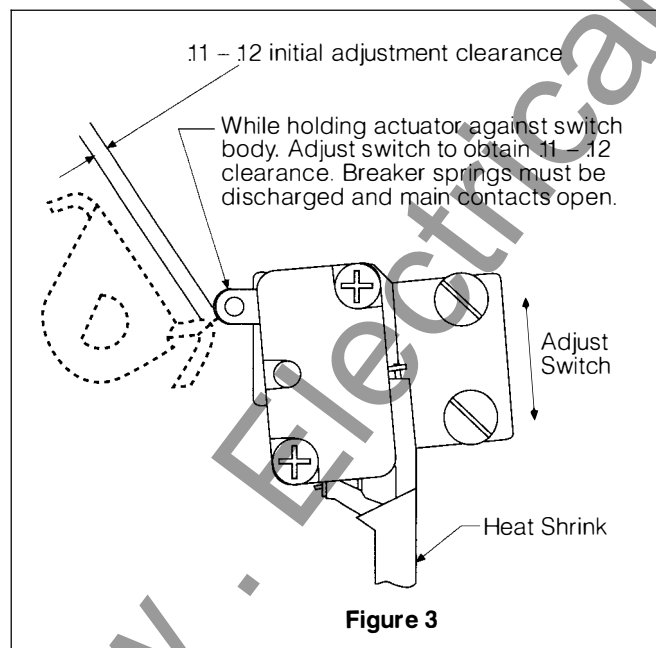

Figure 3
- 6.) Adjust switch (see figure 3). When switch is properly adjusted tighten screws.